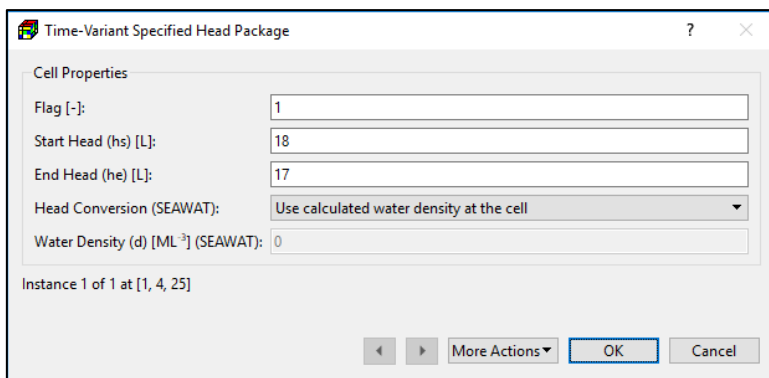

Figure 99. The Time-Variant Specified Head Package dialog box
1. **All input methods**⁵⁰: Figure 99 shows the dialog box for specifying cell, vertex, or polygon properties.